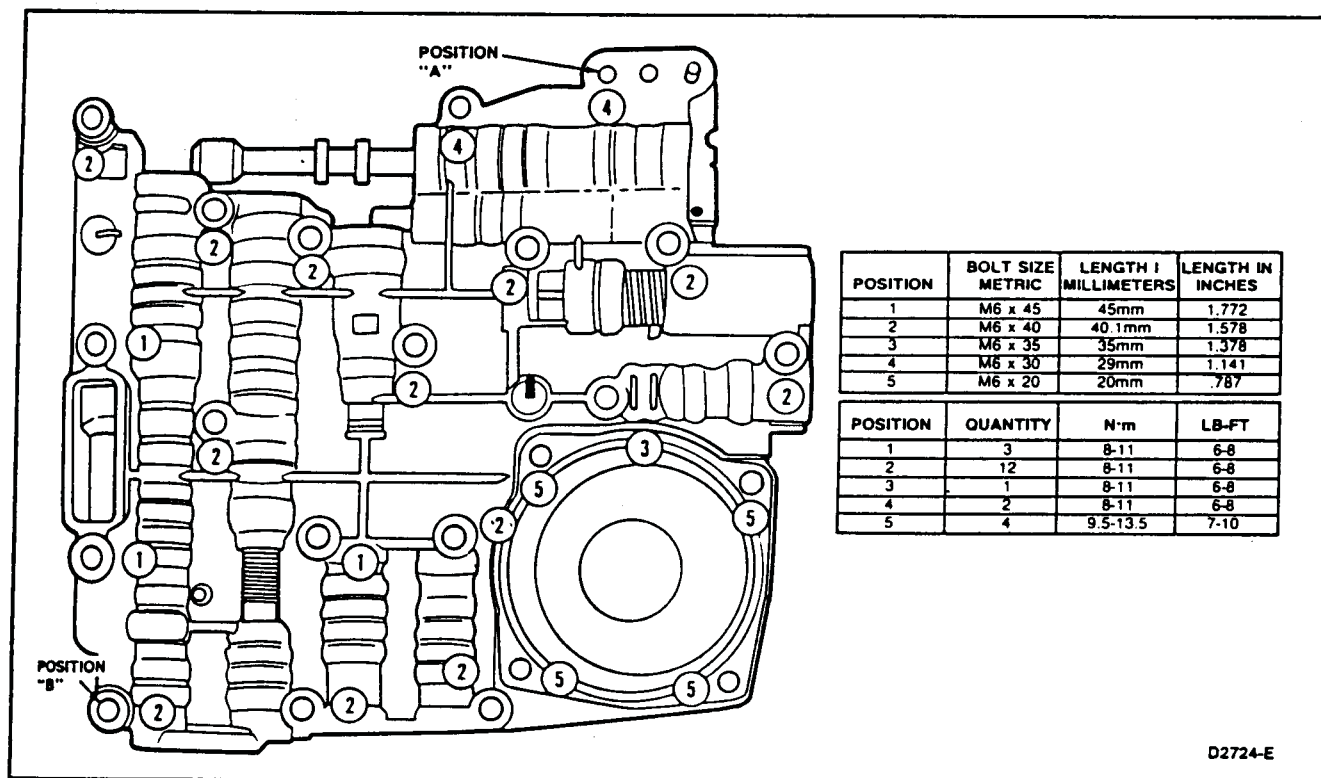

FIG. 9 Control Valve Body Bolt Location
6. Remove the bolts from the control valve body. **Note that the bolts are of different lengths and their locations are different from the bolt locations on other automatic transmissions (Fig. 9). Carefully ease the body from the case while unlocking and detaching the selector lever connecting rod.**
4. Insert all remaining bolts (correct length) except filter screen bolts and tighten to specification (Fig. 9).
5. Remove the bolt from hole A and install the detent spring to bolt, then reassemble and tighten A and B locations to specification (Fig. 9).